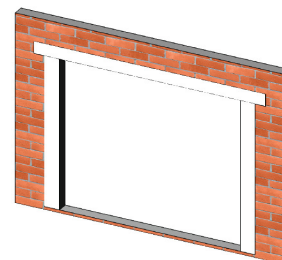

Figure 3:
- At the Head run the flashing paper long enough to extend at least 3" past the jamb flashing and wrap around the Header at least 3" into the opening (Figure 3).